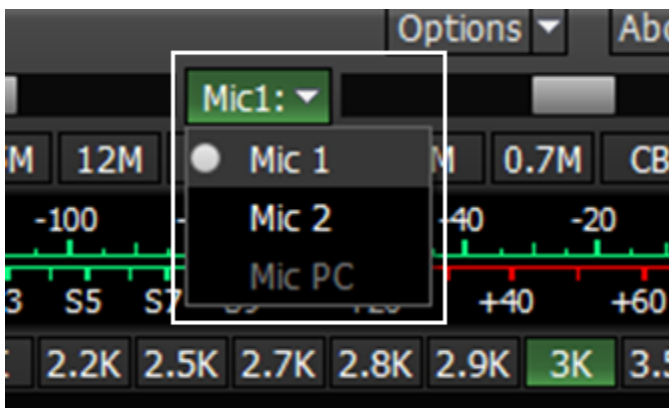

Figure 8.12 – Microphone choosing buttons
- Transceiver has two microphone jacks, chosen by pushing «MIC» button (view Figure 8.12). «Mic 1» is chosen when electret microphone is connected to the corresponded jack on the front panel of transceiver. «Mic 2» is chosen when Yaesu transceiver PTT – switch is connected. PC or laptop microphone headset can be used, chosen as «Mic PC».